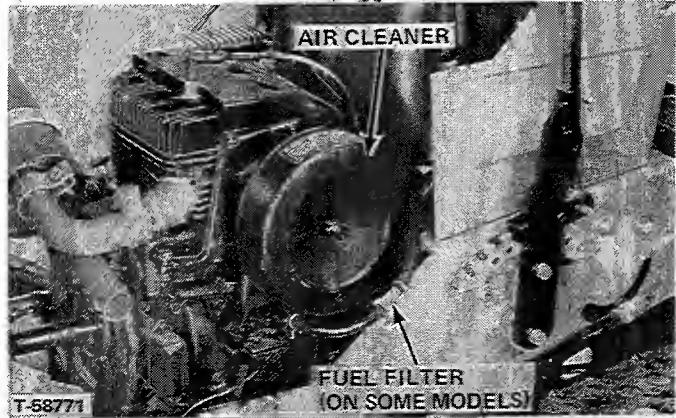

FIGURE 14
2. Fuel filter should be replaced every 100 hours of operation or once a year (Figure 14). On some Models the fuel filter is in the fuel tank.
AIR CLEANER AND PRECLEANER (Figures 14 and 15) (10 H.P., 12 H.P. and 16 H.P. Tractors only)